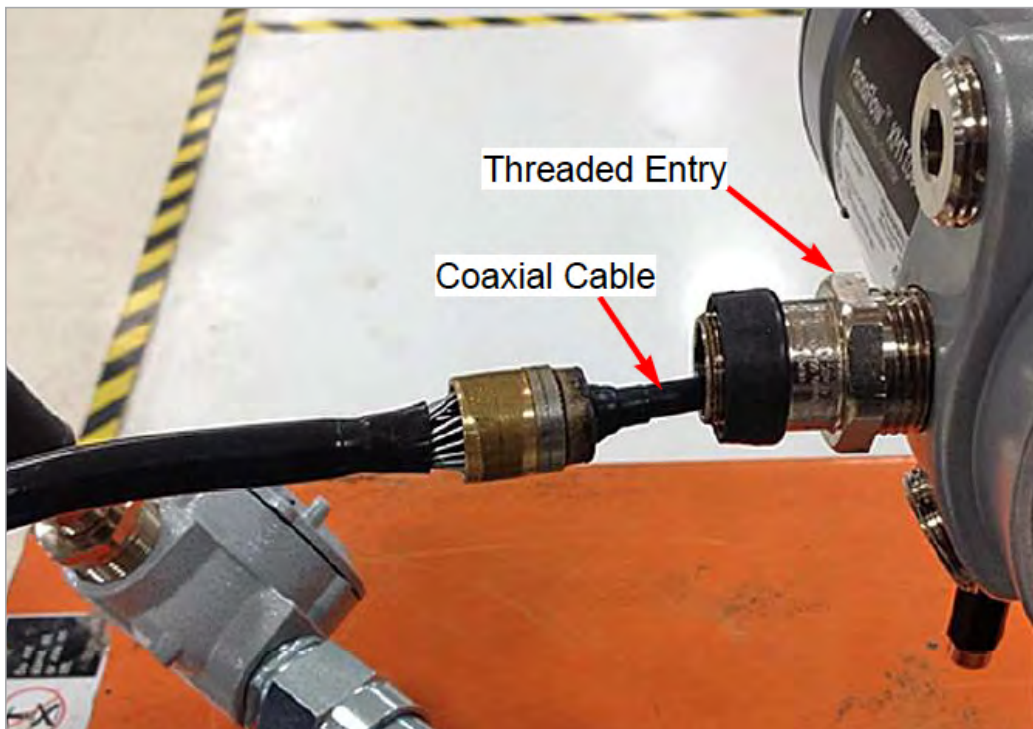

Figure 7: Inserting the coaxial cable into the threaded entry
4. Insert the Coaxial Cable into the Threaded Entry (see Figure 7 below).